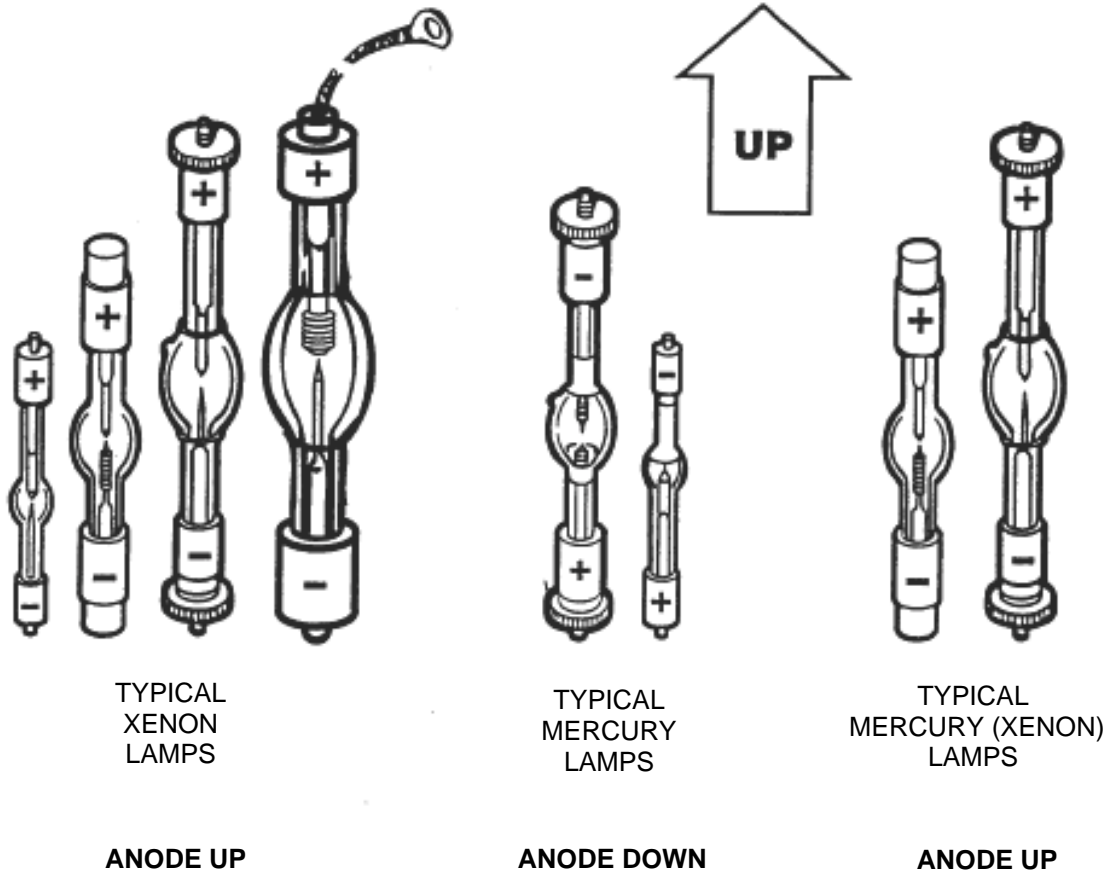

Figure 4: Correct operating position for arc lamps.
4. Determine which orientation is correct for the lamp. For xenon and mercury (xenon) lamps, the anode (+ ve) is at the top. For mercury lamps the anode (+ ve) must be at the bottom. You can identify the anode by a + stamped on the lamp base. Any lamp identification writing or numbers will be the correct way up when the lamp is held in the correct operating orientation. See Figure 4 on page 11 for a diagram.